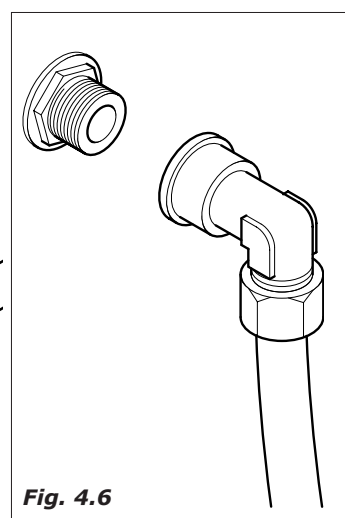

Fig. 4.6
- the foreseen connection is a 3/ 4 gas (Fig.4.6).